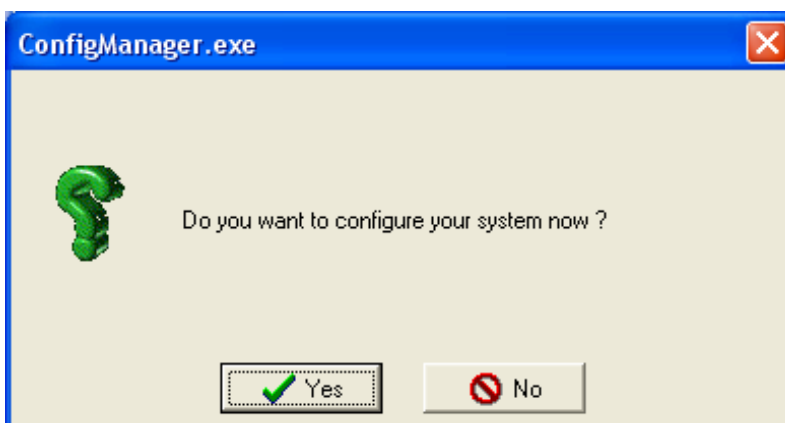

Figure 18 Configuring the system now will start the driver
- You get the following window. Click yes and wait for about 30sec to 1 minute for the driver to start (*Fig. 18*).